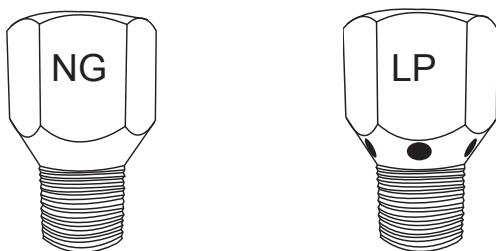

Fig. 4 Natural (NG) orifice on left; LP (vent holes) on right.
Main Burner Orifice - All fire features **MUST** have a main burner orifice installed on the inlet side of the burner. An orifice limits the amount of gas flow to the burner to ensure the flame is a safe and reasonable height to not pose a risk to people or property. The drawings below show the difference between a Natural gas and Propane (LP) orifice. Because LP gas does not burn as clean as Natural and requires ventilation holes at the base of the orifice to provide a cleaner flame. See Fig. 4.